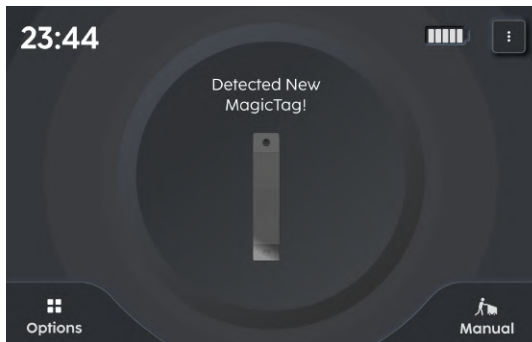
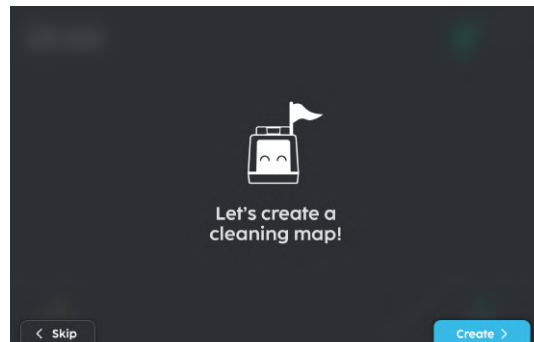

FIGURE 4-7
FIGURE 4-8
For magic mode, if there is a MagicTag or a docking station near the machine, it will be detected automatically (**Fig. 4-7**). The touchscreen will prompt to create a new map if it has not been set up. (**Fig. 4-8**).
1. Press 'Create' (**Fig. 4-8**), or 'Skip' if you would like to set it up later.